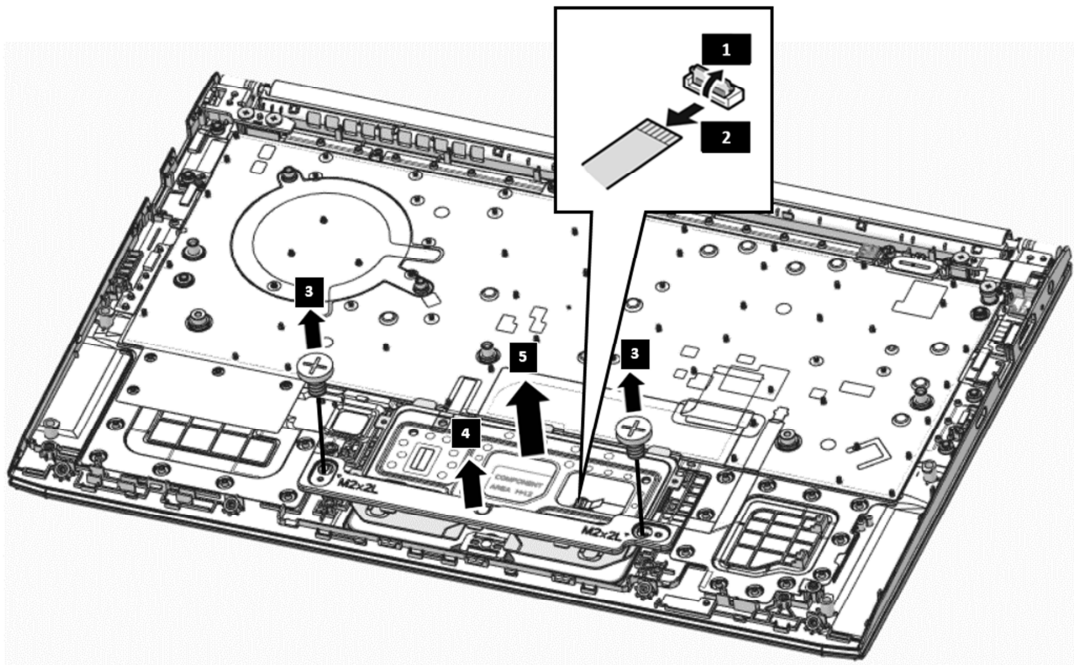
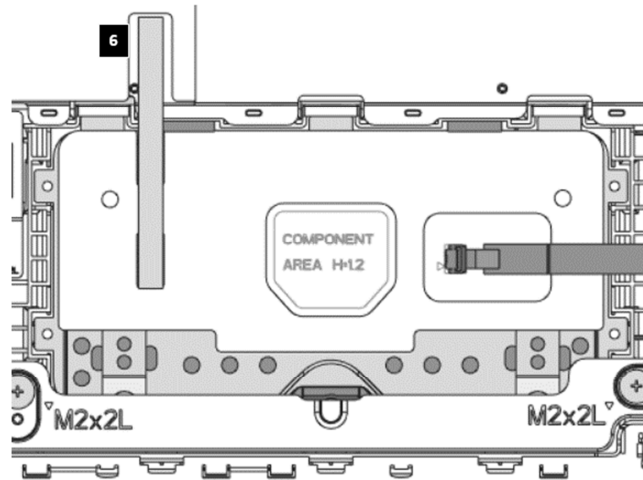

Figure 4-15 Removing the Touch Pad Module
Figure 4-16 Location of Electronic tape & Conductive tape
Remove the touch pad assembly according to the following procedures and Figure 4-15 and Figure 4-16.
4. Adhere the conductive tape over the touch pad and logic upper assembly as shown in Figure 4-16 ,6.